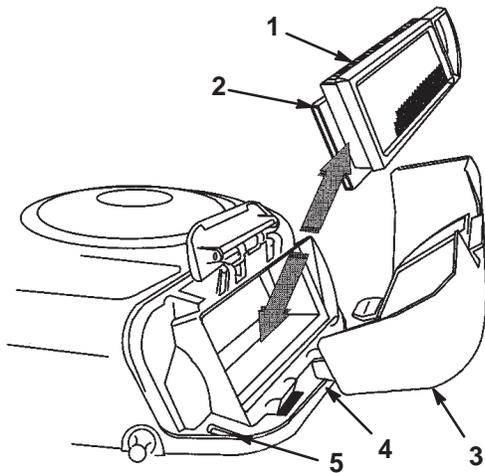

Figure 19
- Carefully slide the paper element and foam element from the blower housing (Fig. 19).
- Align the tabs on the air cleaner cover with the slots of the blower housing (Fig. 19). Hook the handle onto the cover and press down on the handle to lock the cover in place.